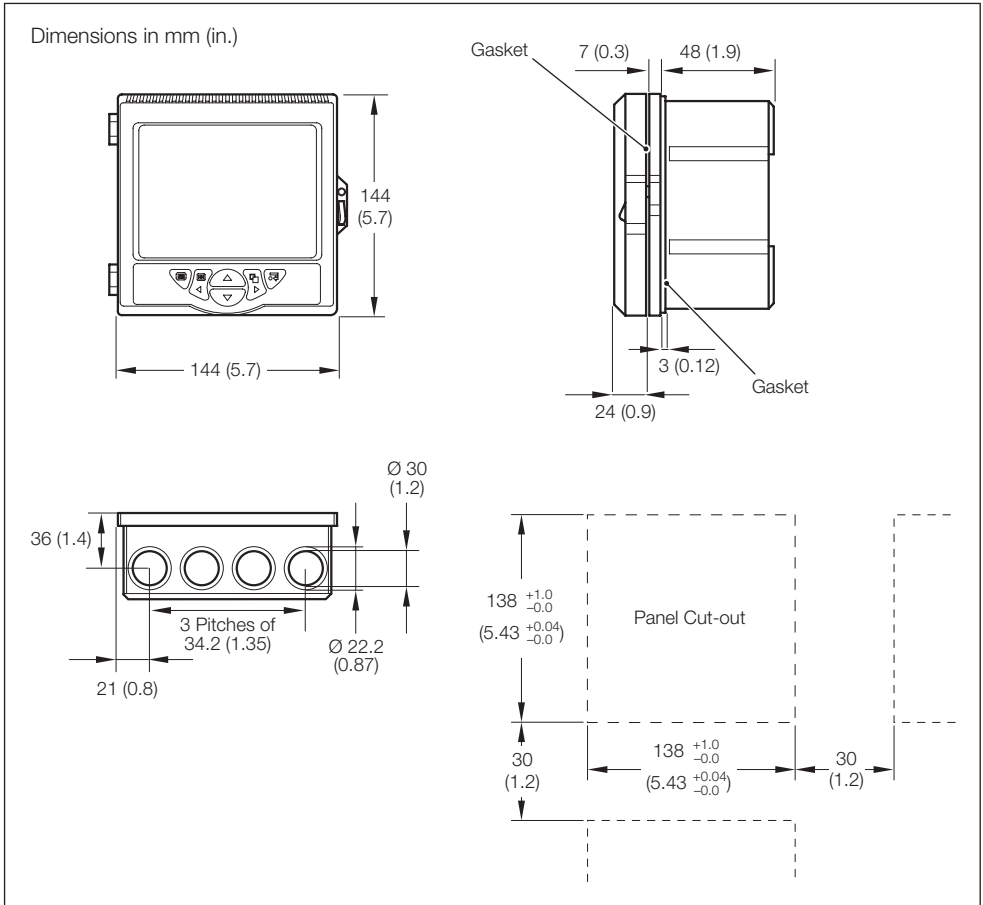

Fig. 2.3 Mounting Dimensions
- ① Cut the correct sized hole in the panel – see Fig. 2.3 on page 8.
- ② Insert the instrument into the panel cut-out.
- ③ Screw one clamping screw into the left-hand bracket until 10 to 15mm of the thread protrudes from the other side of the bracket and position one clamp over the end of the thread.
- ④ Holding the assembly together, position the bracket into the left-hand recess on the rear of the instrument case and secure with the bracket securing screw. Ensure that the plastic washer remains in the position fitted.
- Repeat instructions ③ and ④ for the right-hand panel clamp assembly.
- ⑤ Tighten the clamping screws evenly and securely by hand.